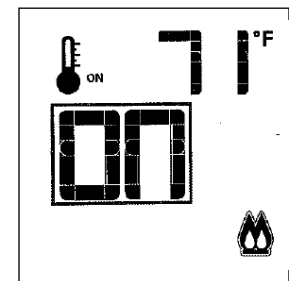

Figure 16.13. Split Flame.
- The Auxiliary Burner (front flames) is activated by using the Mode Key to index to the Split Flow icon. Press the Up Arrow Key to turn it ON. Fig. 16.13. Press the Down Arrow Key to turn it OFF. A single “beep” will confirm reception of the command.